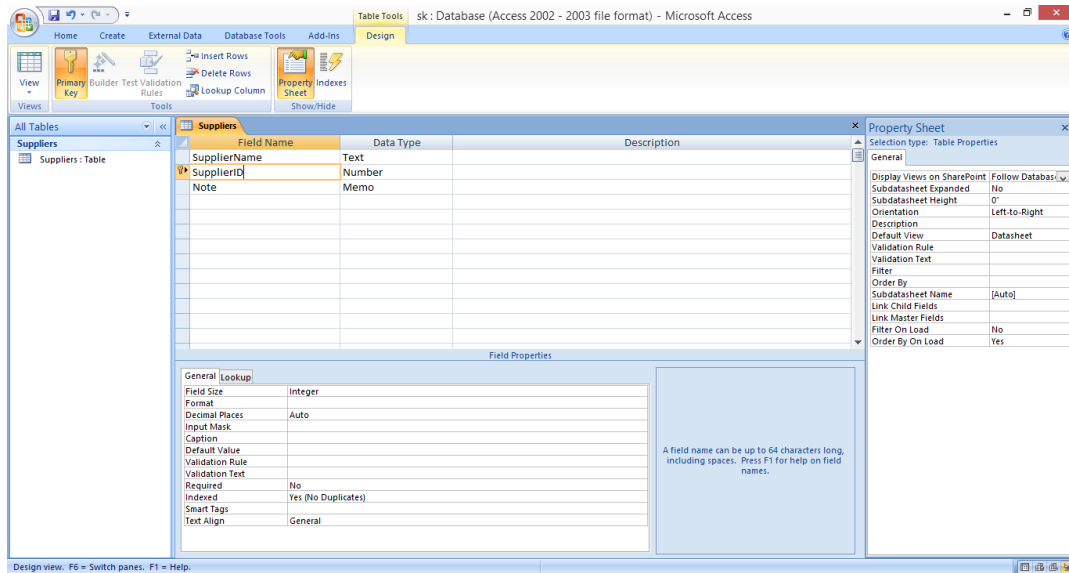

Figure 3
5) For the table “Suppliers” include the field “SupplierID” into the PK (figure 3);